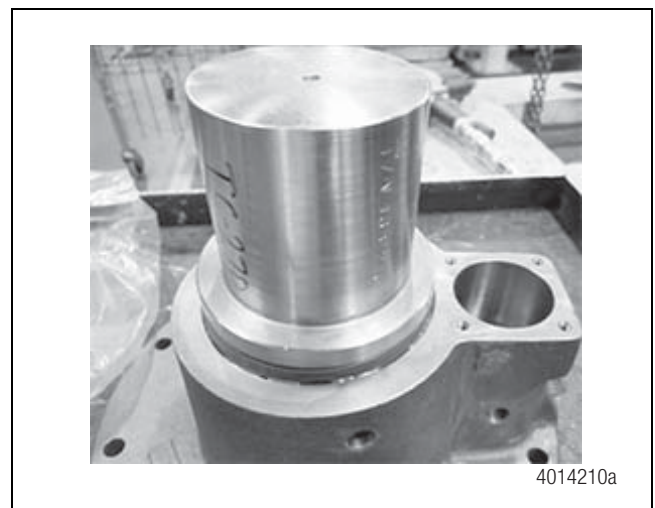

Figure 6.21
12. Use Loctite 620 or equal on the outer diameter of the oil seal and press it into the carrier. Figure 6.21.